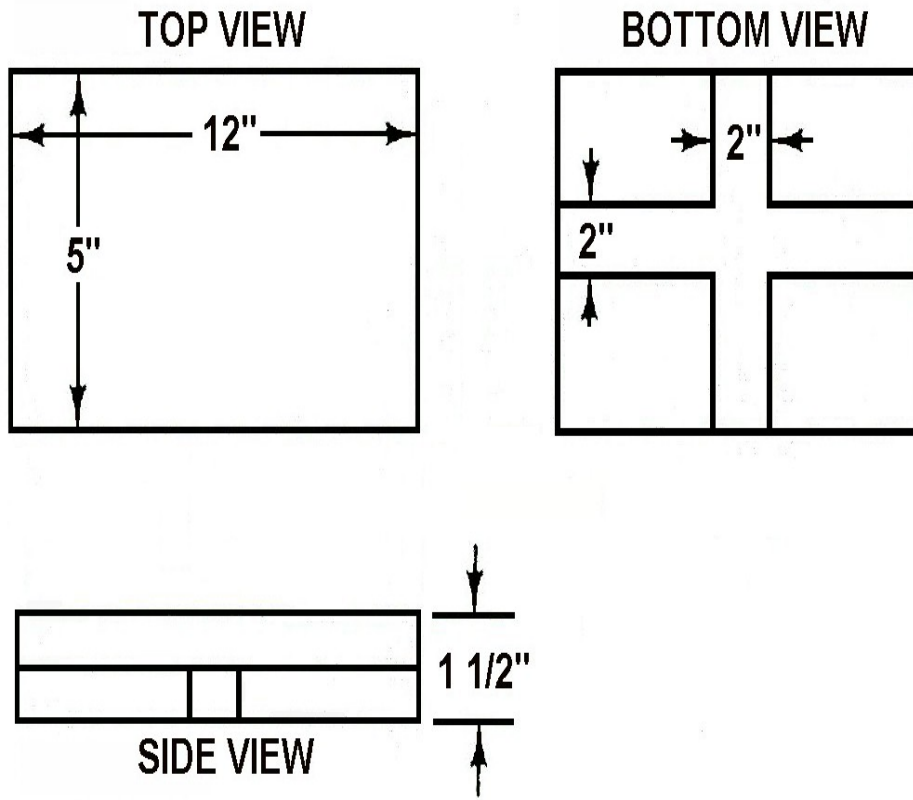

Figure 3-5
NOTE: Two (2) spacers are required as a minimum (see Figure 3-5).